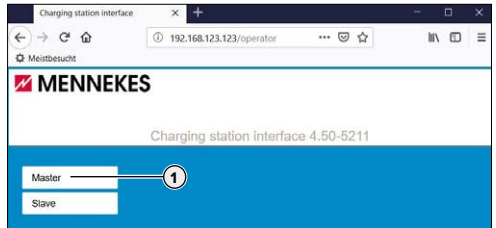

Fig. 21: Selection page: Master - Slave
- ➔ "Fig. 21: Selection page: Master - Slave"